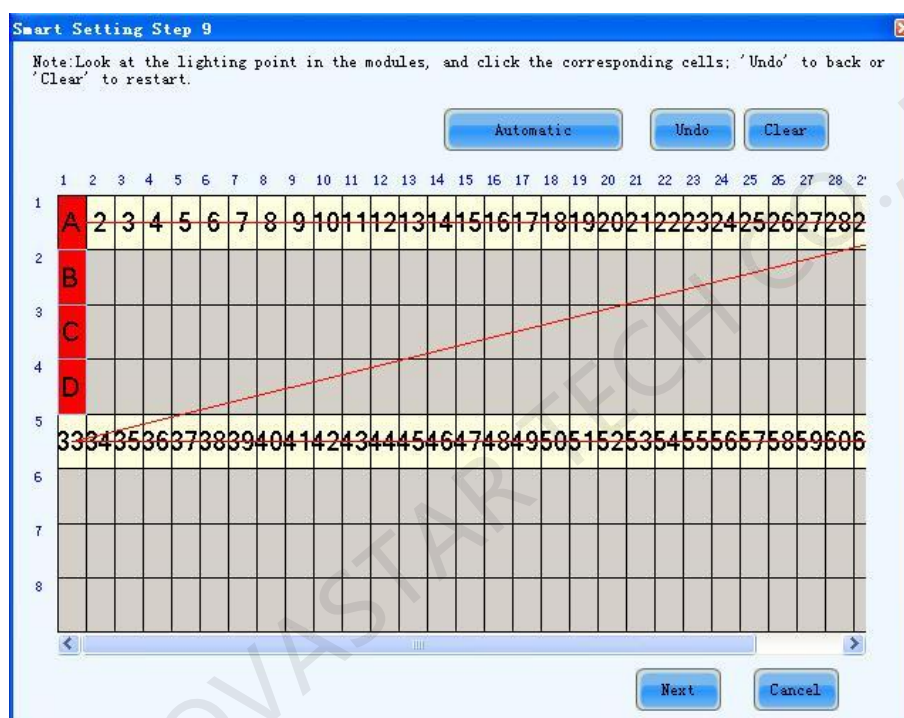

Fig. 7-10 Smart Setting Step 9
- 8) Click "Next" in "Smart Setting Step 5" to enter "Smart Setting Step 9" page as shown in Fig. 7-10. Click the corresponding grids according to the position of the lightened LEDs until no LED is lightened any more. A line of the lightened LEDs routing will be drawn at the same time. A message indicating the finish of the Smart Setting Step 9 will be shown when enough LEDs have been processed.